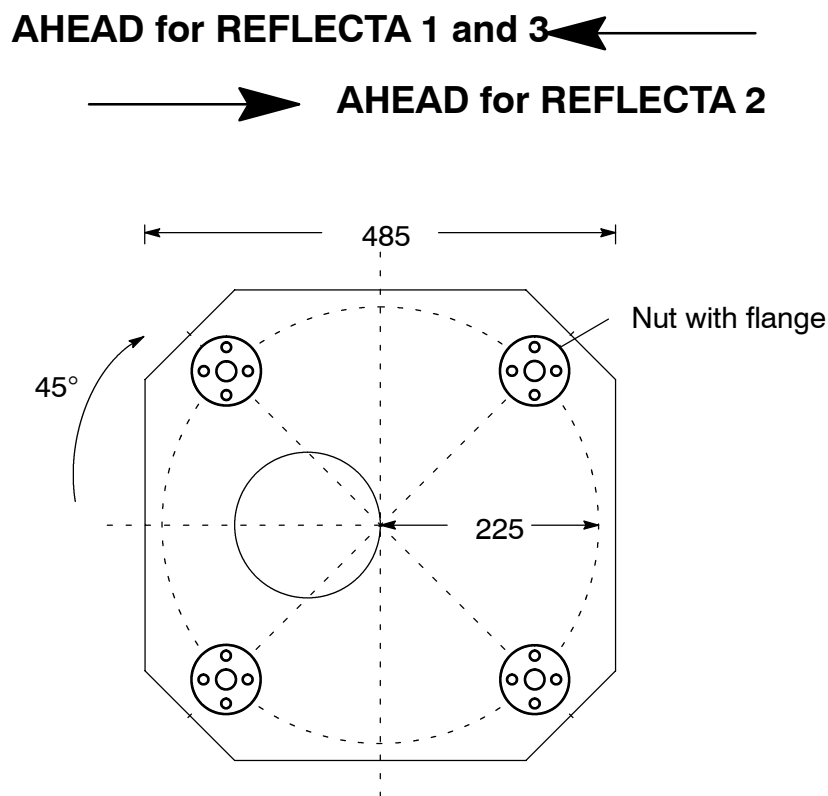

Fig. 6-3: Mounting the Nuts with Flange
- 7) Screw the nuts with flange for the compass binnacle by means of 4 wood screws each (dia. 6 mm) down to the deck, see Fig. 6-3.